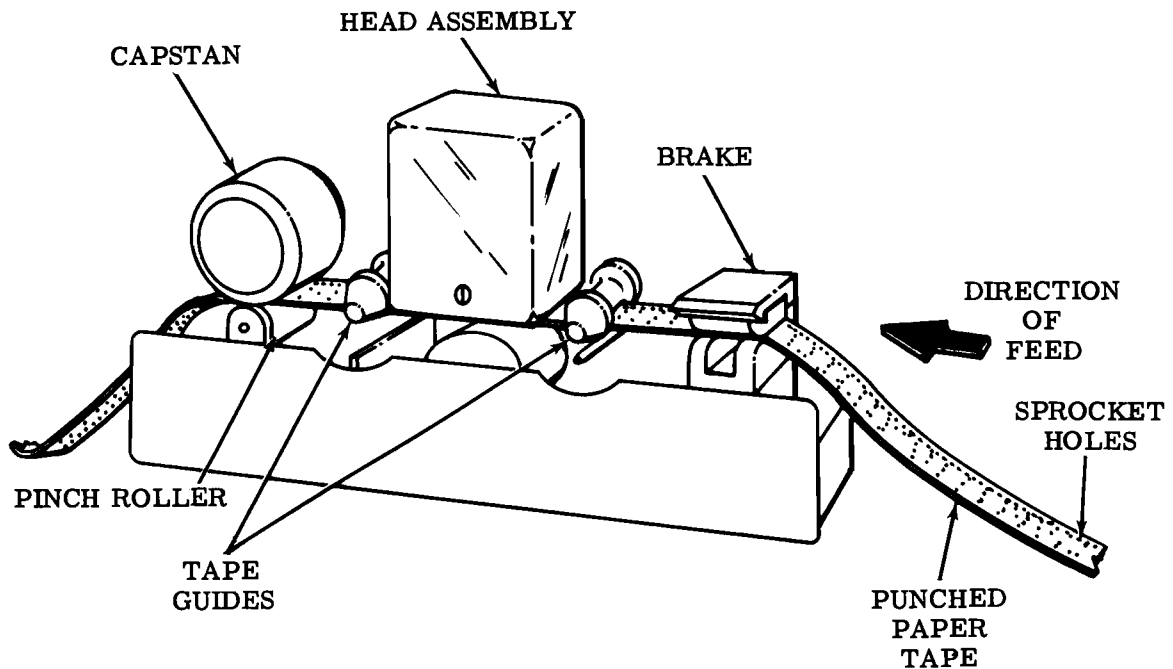

Figure XI-19. The Paper Tape Read Area
5. Thread tape through the read area (Figure XI-19) as follows:
- d. If the paper tape is a different width from the tape previously used, adjust the tape guides (Figure XI-19) by pushing them in or pulling them out to the proper dent position. Again make sure the tape can move freely.
guides, and brake so that it goes under all of these (Figure XI-19). It may be necessary to lift the brake slightly to make room for the tape. After the tape appears to be in place, move it back and forth to make sure it is not caught.